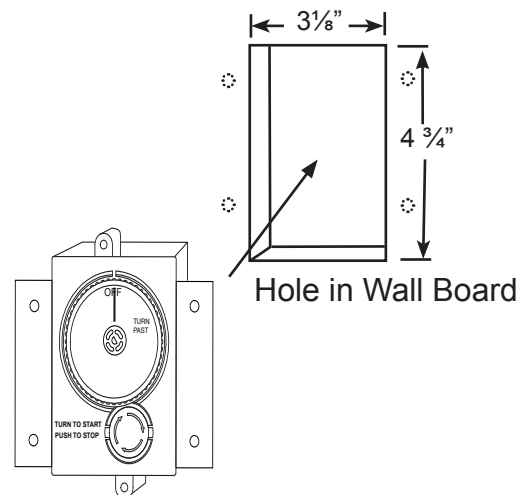

Fig. 3 Installing gas timer into wall.
Step 4: Place the gas timer into the hole and mark the mounting hole brackets. Ensure assembly is centered and level, then drill four $\frac{1}{4}$ " holes in the wall for mounting. See Fig. 3.